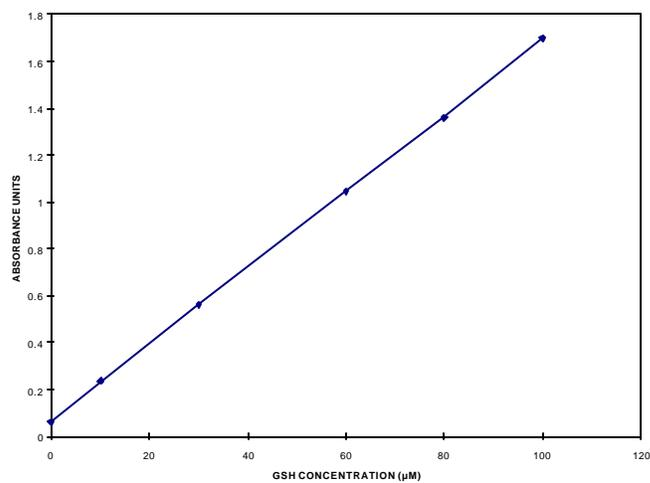

Figure 1: Example of standard curve obtained at 400 nm at 25°C .
A least-squares linear regression should demonstrate that the absorbance at 400 nm (A) is a linear function of GSH concentration. The apparent molar extinction coefficient, ϵ , of the measured product is equal to the slope of the corresponding straight line. An example of a standard curve obtained at 400 nm is shown in Figure 1.